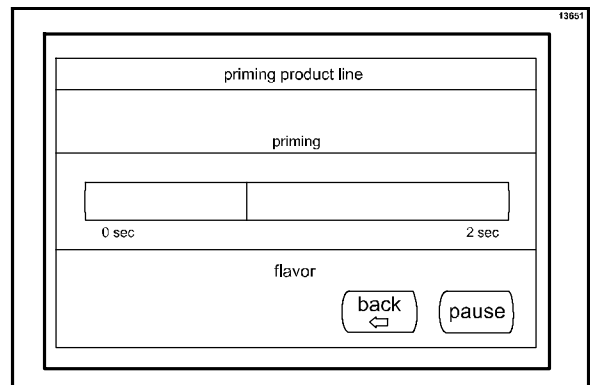

Figure 37
- The new product bag will begin priming. A bar graph screen will show the progress of the priming. The PAUSE key can be used to stop and restart the process. (See Figure 37.)